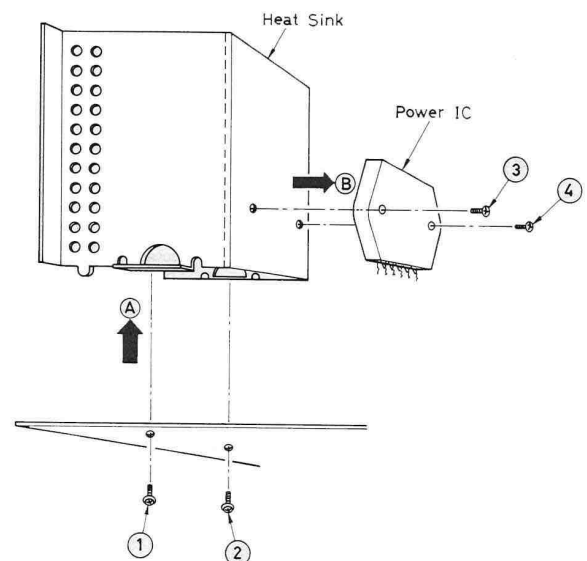

Fig. 4
3. Remove the 2 screws [①, ② in fig. 4] holding the heat sink.
4. Lift the heat-sink upward [fig. 4: → A]
5. Remove the 2 screws [③, ④ in fig. 4] holding the power IC on the heat-sink. The power IC can be removed. [fig. 4: → B]